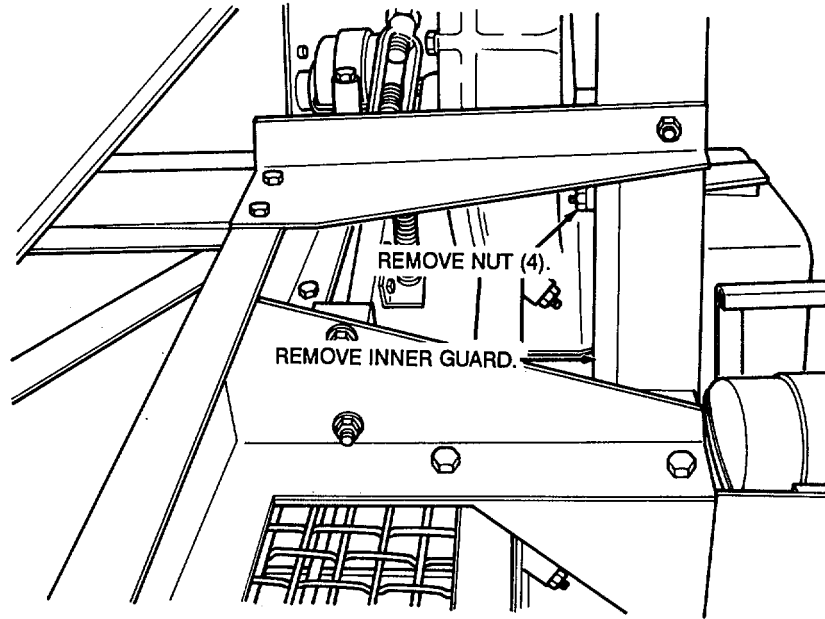

Figure 62. Main (feed) conveyor drive belt guard, removal and installation
- a. Remove the main (feed) conveyor drive belt guard from the unit (fig. 62).
- c. Install the main (feed) conveyor drive belt guard on the unit in reverse of the instructions on figure 62.